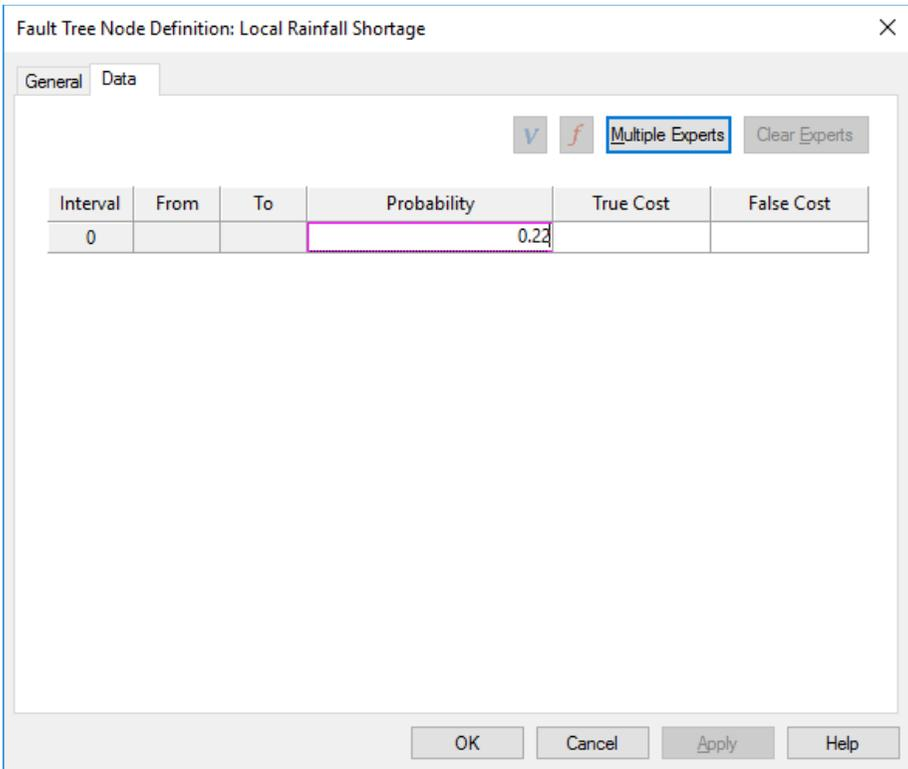

Figure 3-9. Data tab for Local Rainfall Shortage with Probability Entered
- ⇒ On the Data tab, enter a probability of "0.22" in the Probability column of the grid. See Figure 3-9.